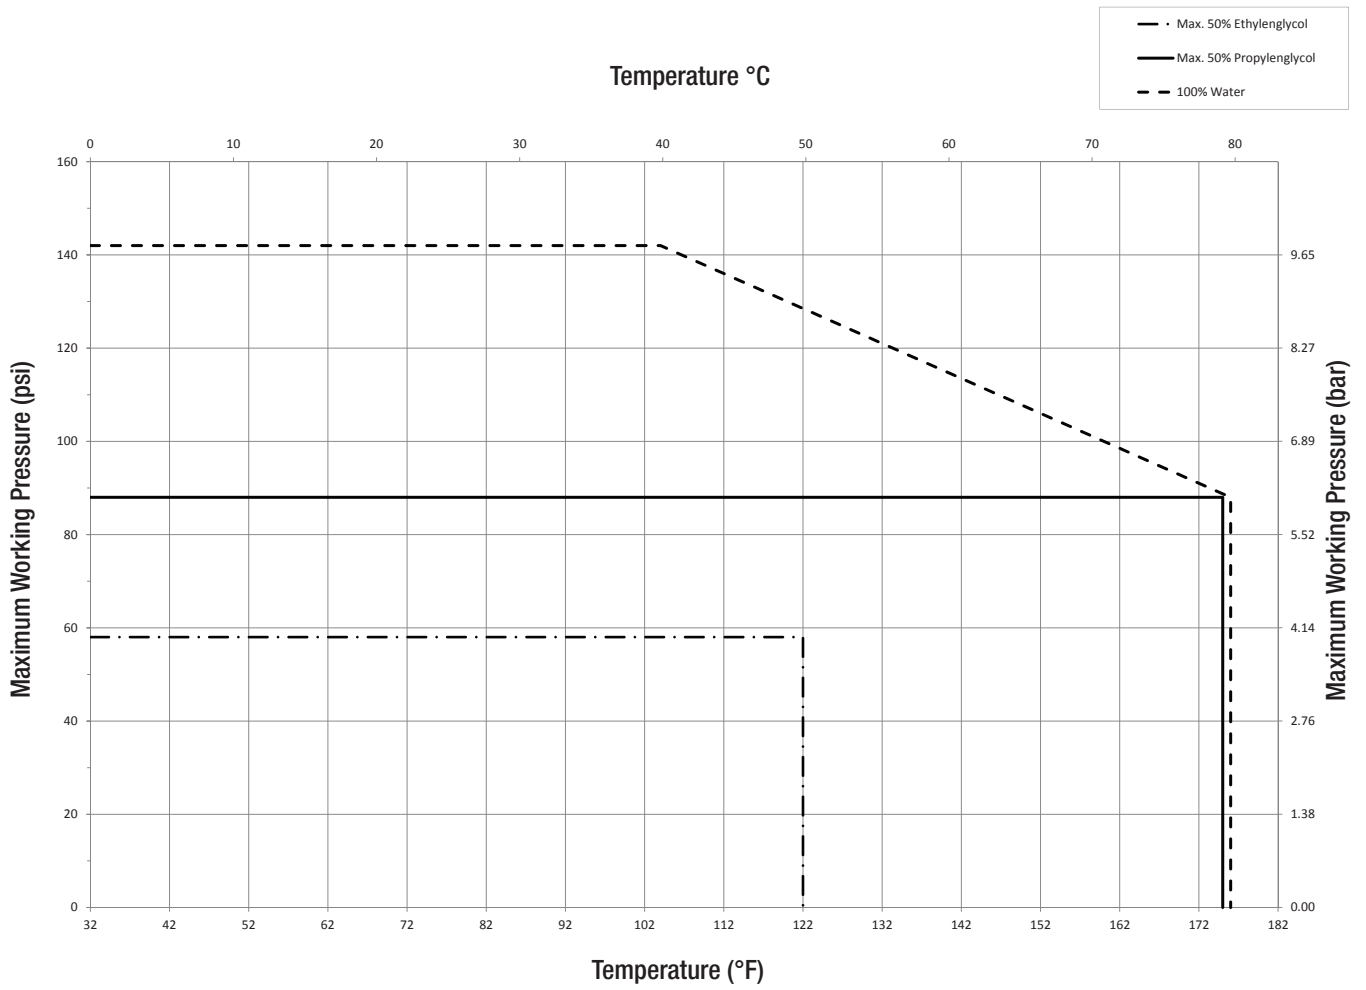

Fig. 2: Manifold temperature and pressure capabilities
- Propylene glycol, ethylene-based glycols and alcohol-based glycols at maximum 50% concentration are recommended within temperature pressure ratings as shown in Fig. 2 in case freeze protection of system is necessary.